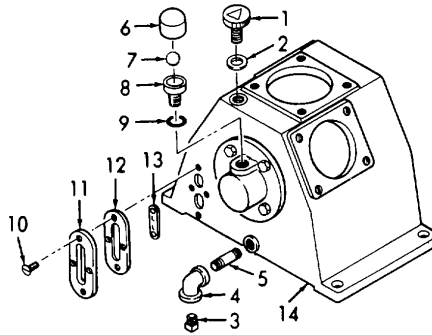

Figure 3-21. Oil Filler Cap, Breather Cap, Plug, and Sight Gage, Removal.
a. *Removal.* (Refer to Figure 3-21).